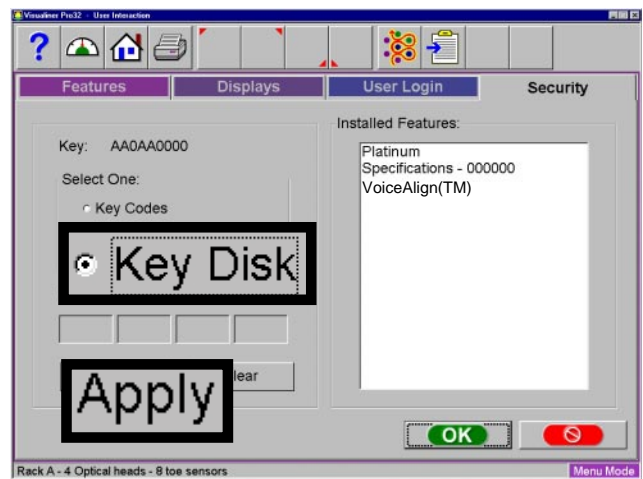

Figure 3-35
4. From the Security Menu select the “**KEY DISK**” radio button. Insert the “**VOICEALIGN™ KEY DISK**” into the floppy drive and select **<APPLY>**. Once the “**Key Disk**” has been loaded the disk is branded rendering it useless for installations on other units. Store the disk in the cabinet for future installations for this unit only. (Figure 3-35)